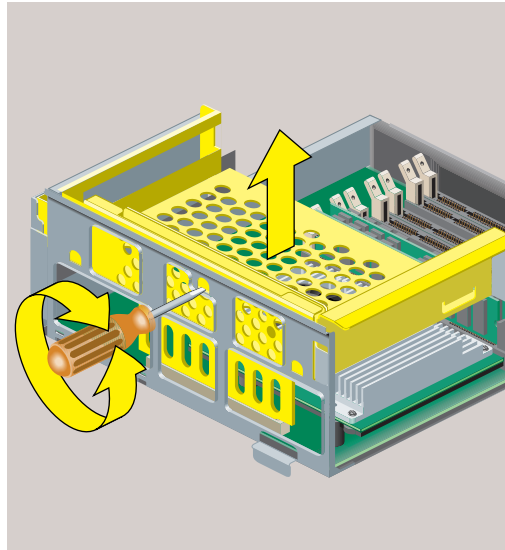

Figure 5-11 Releasing the PCI tray From the System Module
- Insert a screwdriver in the small opening shown in Figure 5-11 and use a prying or twisting motion to release the PCI connector from the system module.